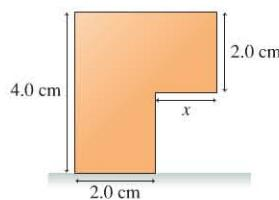

FIGURE P8.16
16. **III** The object shown in Figure P8.16 is made of a uniform material. What is the greatest that x can be without the object tipping over?